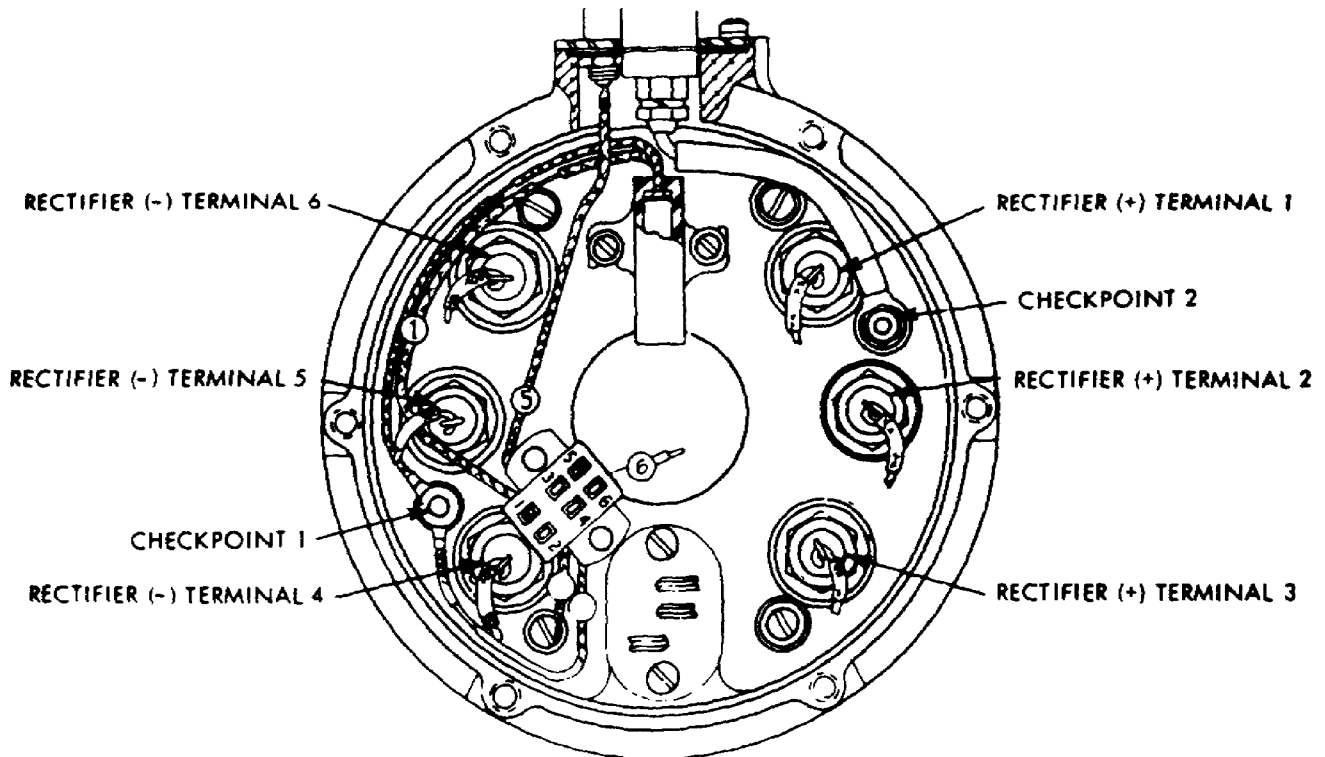
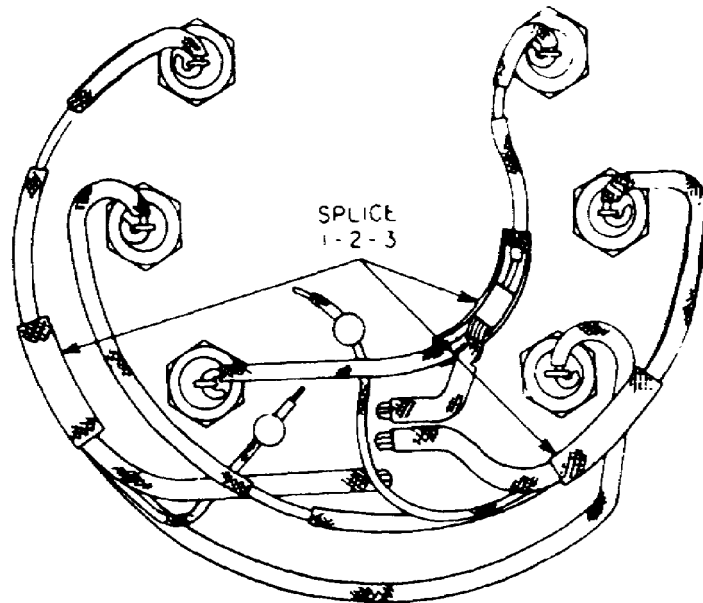

Figure 9. Rectifier test.
Figure 10. Continuity test.
(1) The back of the voltage regulator makes a watertight seal (34 and 35) with the rotor shaft and intermediate housing seal (18).
(2) The drive end housing also makes a watertight seal (21) with the rotor. So the entire voltage regulator and sliprings are encased between the intermediate housing and drive end housing, which, when properly sealed, forms a watertight assembly (B, foldout 1).
(3) On the front of the drive end housing is a cover plate (26) which allows access to the 40/60-ampere regulator taps.
(4) On the circumference of the drive end housing is a pipe plug (24). Beneath this plug is the voltage output adjustment for the generator.
b. With the drive end housing removed, six rectifying diodes are exposed within the intermediate housing along with the brushes and sliprings on the rotor (fig 9).
- (1) Select low ohmmeter range.
- (2) Zero the ohmmeter.
(3) Connect one ohmmeter lead to checkpoint 2 (fig 9) and the other ohmmeter lead to splice 1, then 2 and 3 (fig 10), while observing the meter. Note the readings obtained.
(4) Reverse ohmmeter lead connections and repeat checks in (3) above.
(5) Readings obtained when connected one way should be low. When connected in reverse, readings should be near infinity if diodes are serviceable.
b. Negative heat sink test. Repeat tests in a above with one exception: connect one ohmmeter lead to checkpoint 1 (fig 9).